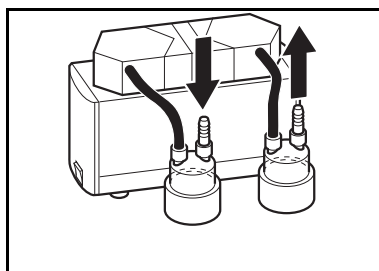

Fig. 14: Tubing system SR
2	Tubes (see fig. 14) ▪ Resistant to the medium employed ▪ Inside diameter 10 mm ▪ Length: approx. 150 mm
3. Lay tubes for separators (see fig. 14).